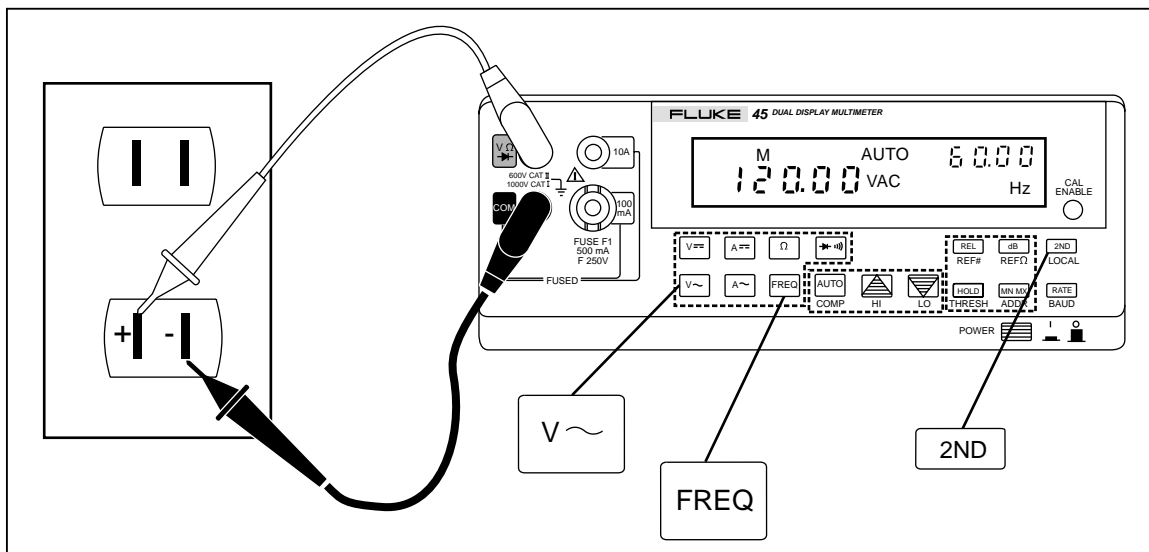

Figure 4-1. Dual Display Showing Volts AC and Frequency
5. Insert the test lead probes into a wall socket. The display will appear something like Figure 4-1.